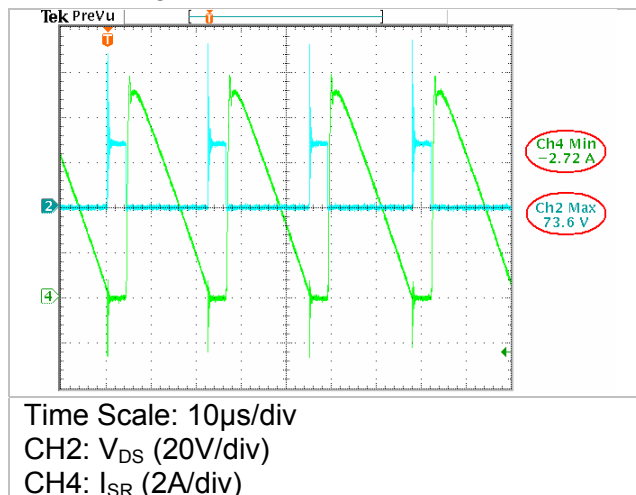

Figure 16 — Maximum Voltage Spike during Start-Up at High Line Input
Figure 16 shows the bench test result of the maximum voltage spike and reverse current ( $I_{rr}$ ) during system start up at high-line input without RC snubber applied. Also based on the specification of this 20W Flyback converter, we can get:
From (14),  $R_s$  can be calculated which is  $\sim 13.3\Omega$ . So connect the RC snubber network as  $C_s=2.2nF$  &  $R_s=13.3\Omega$ , the maximum voltage spike on SR FET during system start-up at high line input is showed in figure 17, we can find over 30V voltage spike is damped by the RC snubber compared with in figure 16.